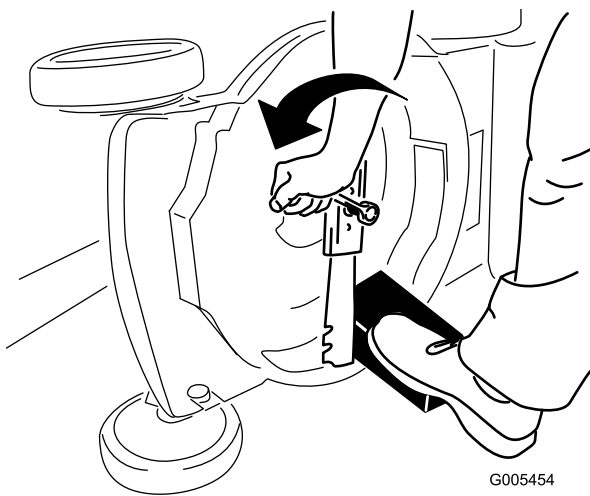

Figure 22
3. Use a block of wood to hold the blade steady (Figure 22).
4. Remove the blade, saving all mounting hardware (Figure 22).